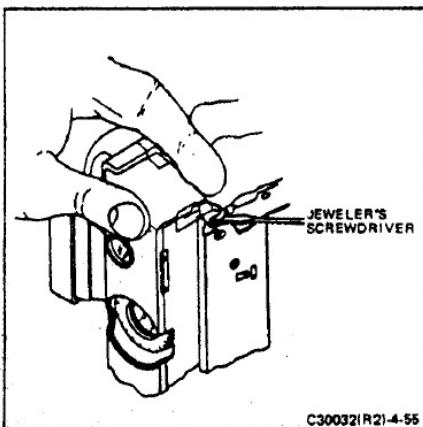

FIGURE 4-55 RELEASING SHUTTER MOUNT HINGE BRACKETS
**NOTE:** On early cameras, the shutter hinge bracket is held to the bottom plate with hinge pins. Release the bracket as directed in step 3 below (Figure 4-55). On later cameras, the bracket is riveted in place. Remove the rivets using Special Tool #11877.
- Using the blade of a jeweler's screwdriver, spring the shutter hinge bracket on each side just enough to release the pins. See Figure 4-55. This will release the shutter hinge bracket from the bottom plate.
- Release the shutter hinge bracket from the bottom plate by springing the bracket free using a jeweler's screwdriver as shown in Figure 4-55.